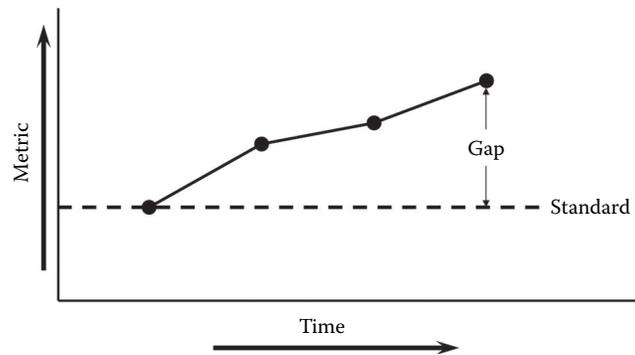

Figure 2.4 Iji type problem.
3. *Maintenance (Iji)*. The third type of problem solving addresses situations where an established standard is not being met. Everyone has found himself or herself in a situation where things suddenly or gradually get off track from the norm. In these situations it is essential to get back on track with minimal disruption. The sooner the problem is solved, the less impact it will have on the organization. The majority of this text focuses on this type of A3 as it is the most difficult to master. Figure 2.4 represents an Iji type problem.